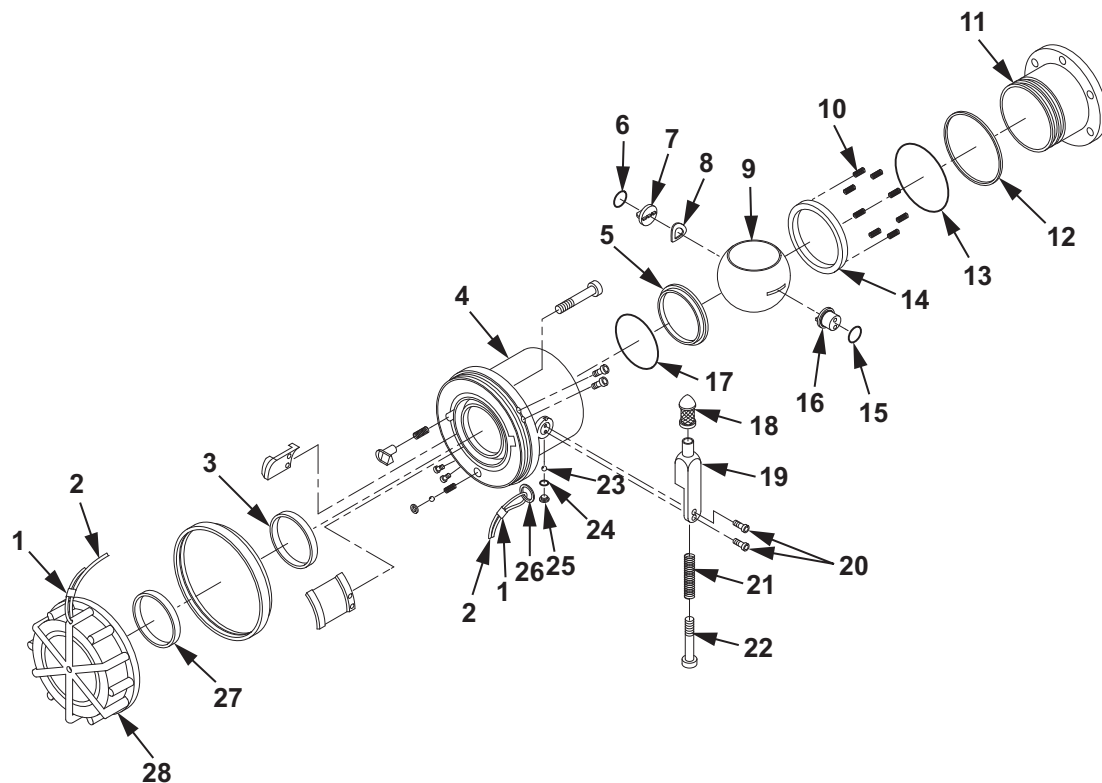

Figure 1. Valved Dry-Break Coupling Disassembly.
15. Discard seal (Figure 1, Item 5).
16. Remove O-ring (Figure 1, Item 17) from coupling (Figure 1, Item 4).
17. Discard O-ring (Figure 1, Item 17).
18. Remove two screws (Figure 1, Item 20) from control arm (Figure 1, Item 19).
19. Remove control arm (Figure 1, Item 19) from coupling (Figure 1, Item 4).
If it is necessary to disassemble control arm (Figure 1, Item 19), perform the following steps.
- a. Remove screw (Figure 1, Item 22) from control arm (Figure 1, Item 19).
- b. Remove spring (Figure 1, Item 21) from control arm (Figure 1, Item 19).
- c. Remove knob (Figure 1, Item 18) from control arm (Figure 1, Item 19).
20. Remove control arm shaft (Figure 1, Item 16) and O-ring (Figure 1, Item 15) from inside coupling (Figure 1, Item 4).
21. Discard O-ring (Figure 1, Item 15).
22. Remove seal (Figure 1, Item 3) from coupling (Figure 1, Item 4) interface.
23. Discard seal (Figure 1, Item 3).
If it is necessary to replace dust cap (Figure 1, Item 28), perform the following removal steps.
24. Remove dust cap (Figure 1, Item 28) from coupling (Figure 1, Item 4).
25. Cut cable (Figure 1, Item 2) or remove split ring (Figure 1, Item 26) from coupling (Figure 1, Item 4) and cable (Figure 1, Item 2).
26. Cut cable (Figure 1, Item 2) from dust cap (Figure 1, Item 28).
27. Remove cable (Figure 1, Item 2) and sleeve (Figure 1, Item 1).
28. Remove seal (Figure 1, Item 27) from dust cap (Figure 1, Item 28).
29. Discard seal (Figure 1, Item 27).
The purpose of ball bearing (Figure 1, Item 7) is to provide electrical continuity between mating surfaces.